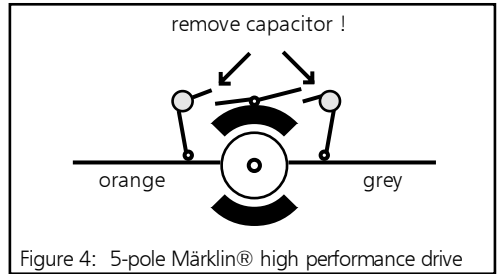

Figure 4: 5-pole Märklin® high performance drive
- The two suppressors that connect the motor terminals with the motor chassis must be removed (see figure 4).